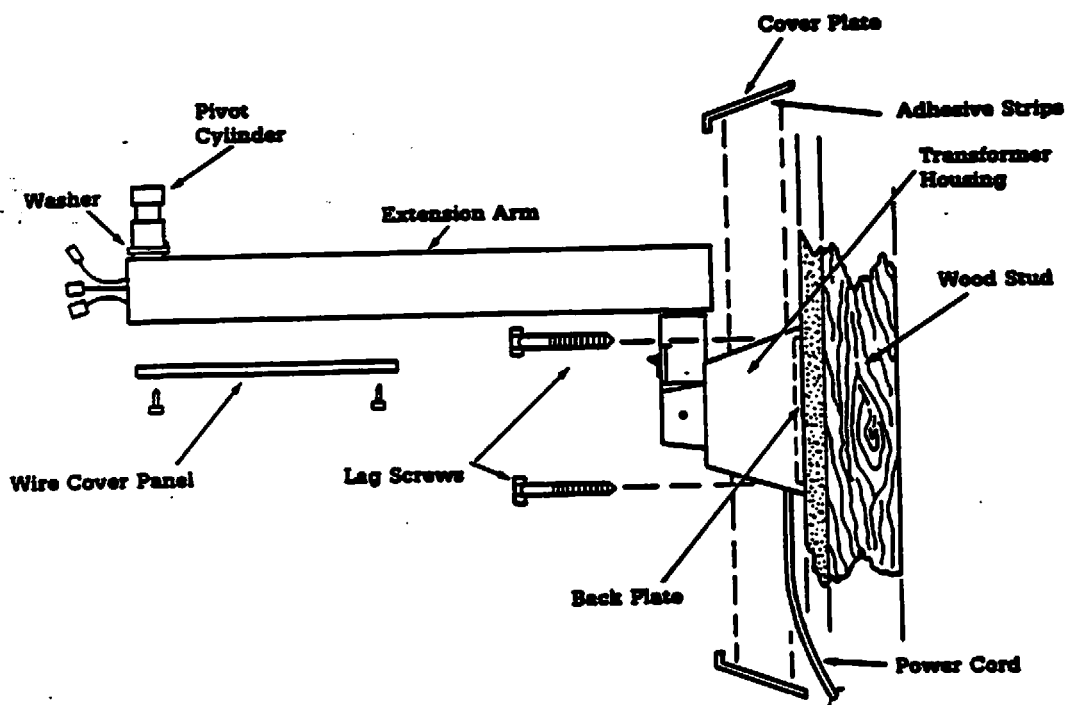

Figure 5. Wall Mounting the Phototherapy Light
4. Place the transformer housing on top of the backplate with the power cord exiting from the bottom of the housing. Use the two lag screws provided to secure the assembly to the wall (Figure 5).